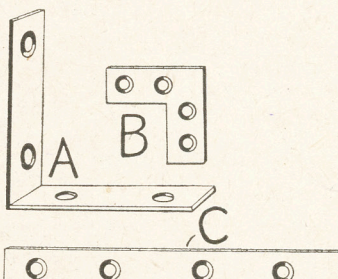

Fig. 4—A group of useful metal fittings
At Fig. 4 is shown three types of brass plate which frequently serve a very helpful purpose. In one case, as you see, the strip is bent at a flat rightangle, and in the other case the strip is flat in itself, taking a different type of corner. The third instance is of a plain metal strip. Each of these has four holes which are usually countersunk.
The part (C) in Fig. 4 is, as can be seen, merely a plain strip in which four countersunk holes are added. It is useful in joining two pieces of wood together, to stiffen additionally by glue. If you want to make a wide plank by